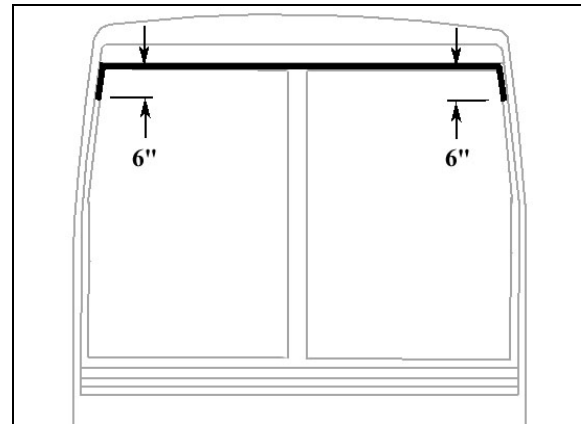

FIGURE 51: APPLICATION OF SIKA 221 BLACK
7. At the top of windshield, clean surface between fiberglass and rubber extrusion using Sika 205 (Fig. 51).